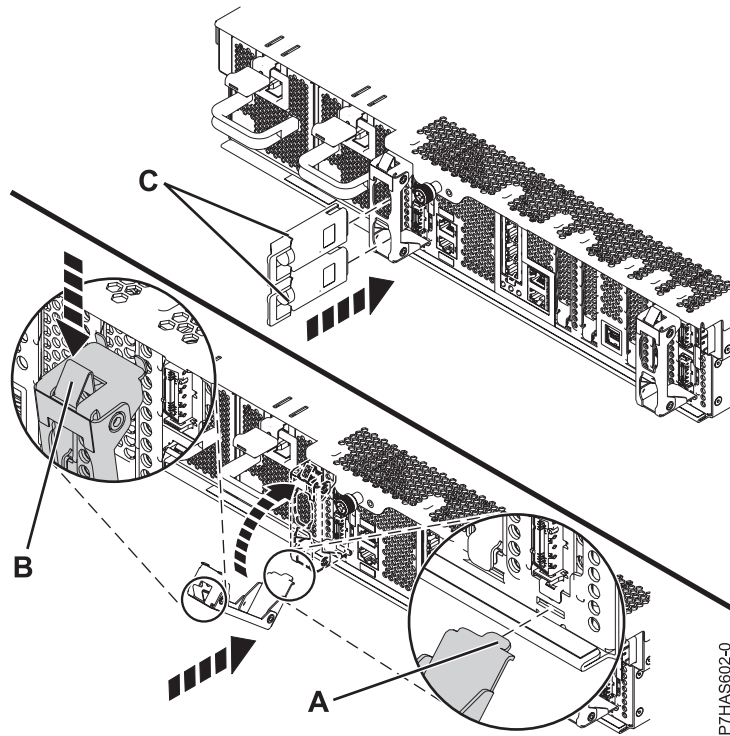

Figure 3. Installing the cable retention bracket
15. If the cable retention bracket (**A**), shown in Figure 3 on page 4 is provided, perform the following steps:
16. Tilt the cable retention bracket (A) to hook the tab at the bottom of the bracket into the slot in the assembly.
17. Swing the cable retention bracket toward the chassis and push the bracket fastener (B) into the chassis opening to secure the bracket.
18. From the rear of the system, attach the adapter cables (C).